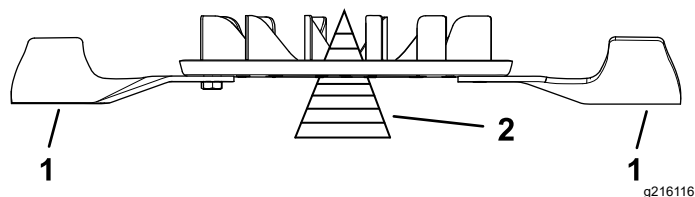

Figure 109
2. Check the balance of the blade assembly by putting it on a blade balancer (Figure 109).